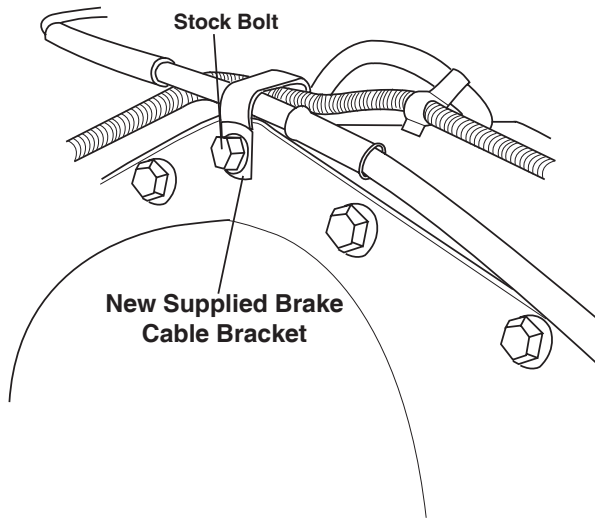

Figure 18
1. Reattach the passenger side emergency brake cable to the top of the rear end using the new hanger supplied and the stock rear end cover bolt. Tighten securely (Figure 18).